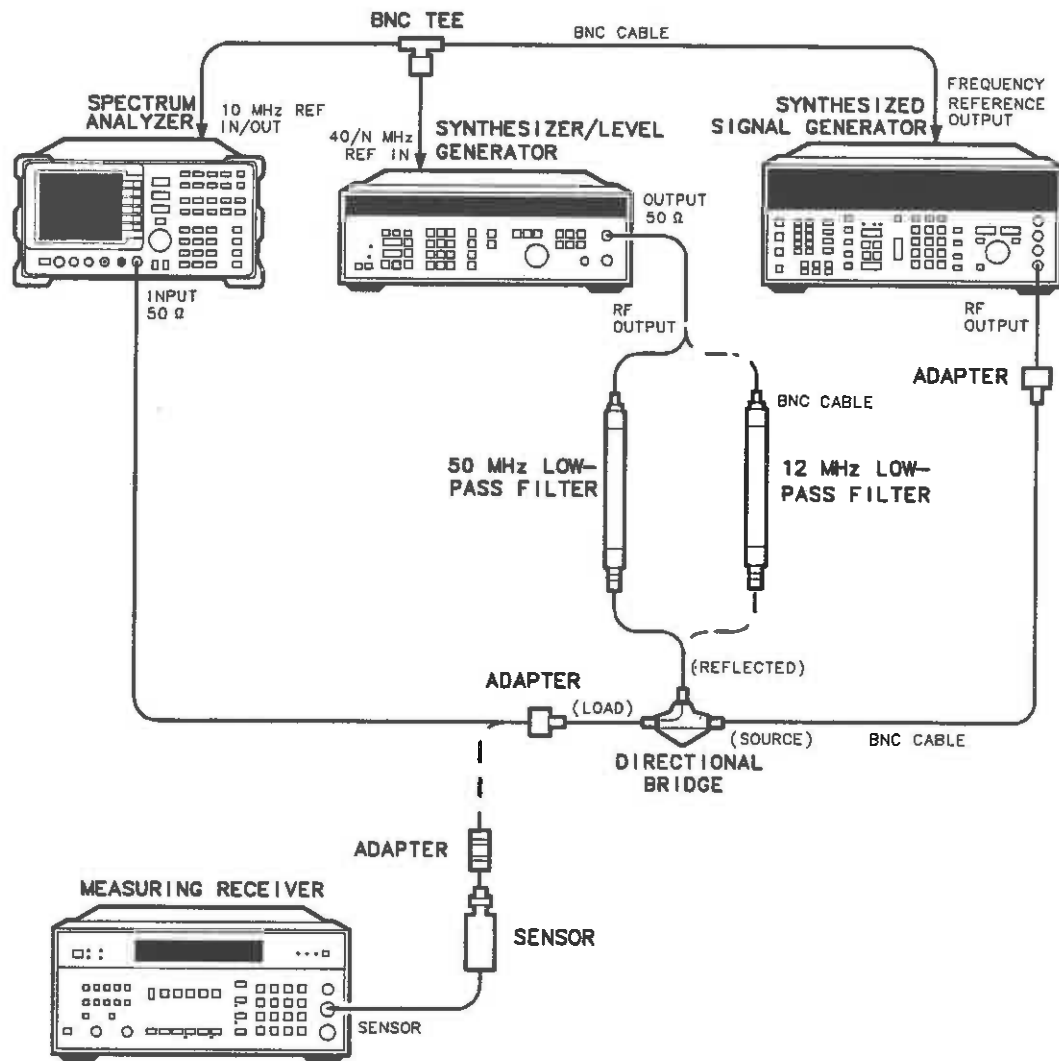

Figure 3-20. Third Order Intermodulation Test Setup
1. Connect the equipment as shown in Figure 3-20 using the 12 MHz low-pass filter, but do not connect the directional bridge to the spectrum analyzer.